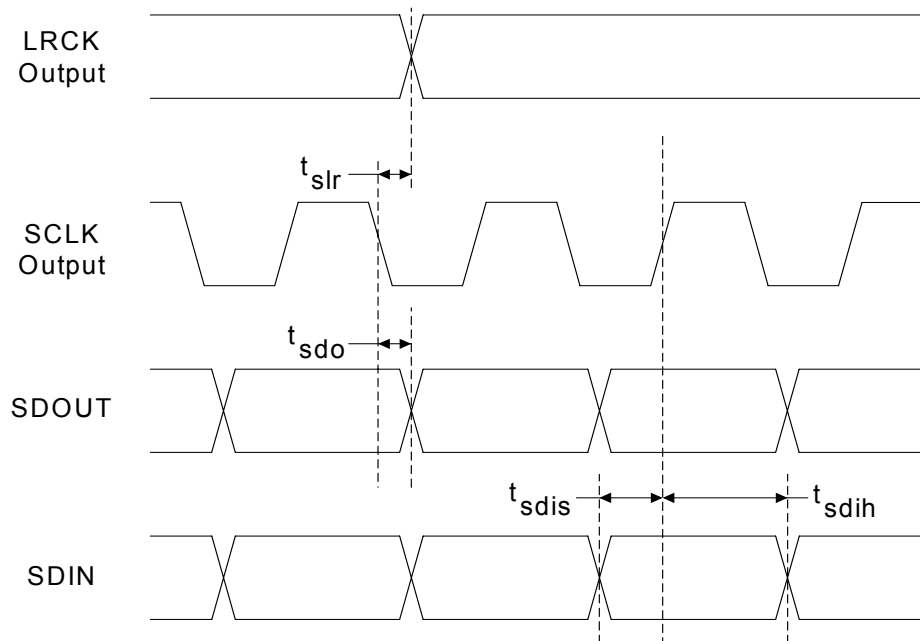

Figure 3. Master Mode Serial Audio Port Timing
23. See Figures 3 and 4 on page 20.